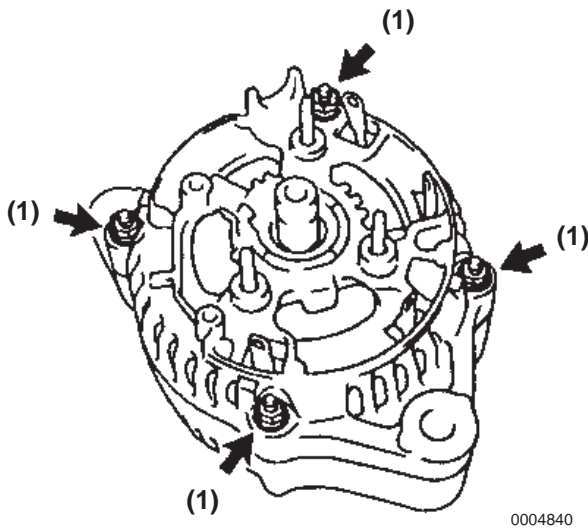

Figure 11-15
10. Remove the 4 rectifier end frame nuts (**Figure 11-15, (1)**).